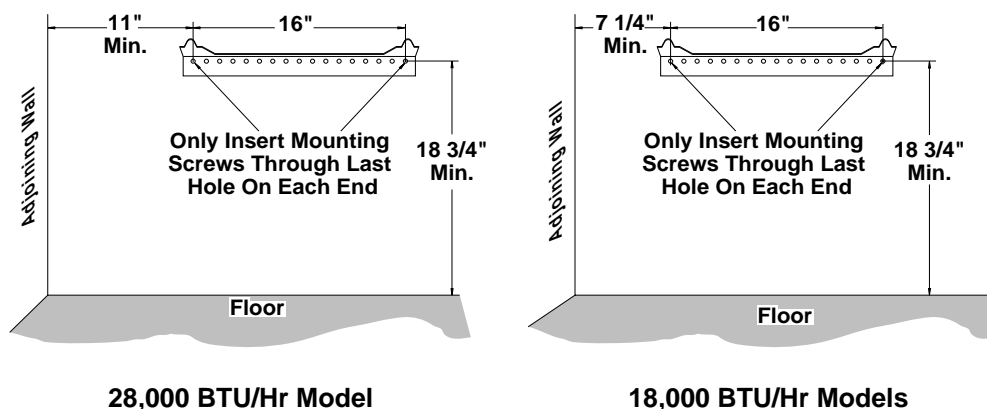

Figure 8 - Mounting Bracket Clearances
Maintain minimum clearances shown in Figure 8. If you can, provide greater clearances from floor and joining wall.
2. Mark screw locations on wall (see Figure 8).